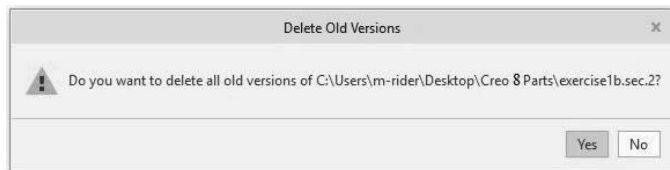

Figure3-67 Accept Command Actions
Step 34: *Pick Yes* to remove all previously saved versions of this file in your working directory (Figure 3-67).